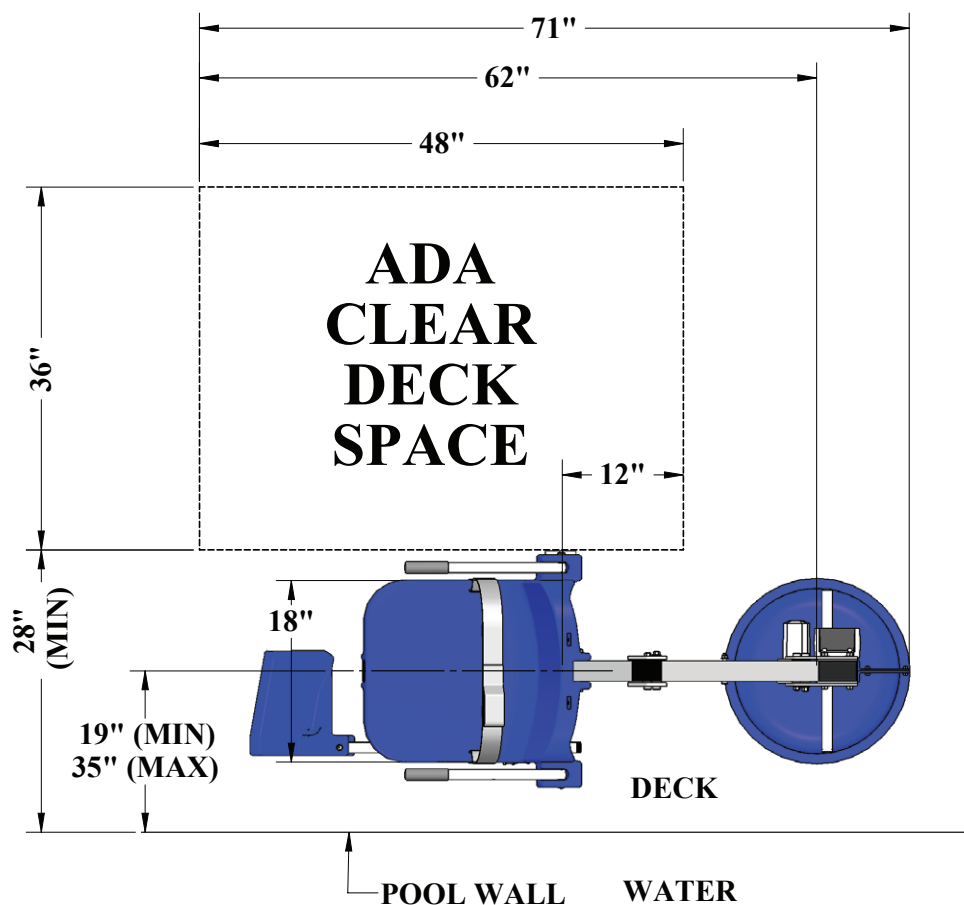

FIGURE 1
- Clear deck space dimensions (see FIGURE 1)